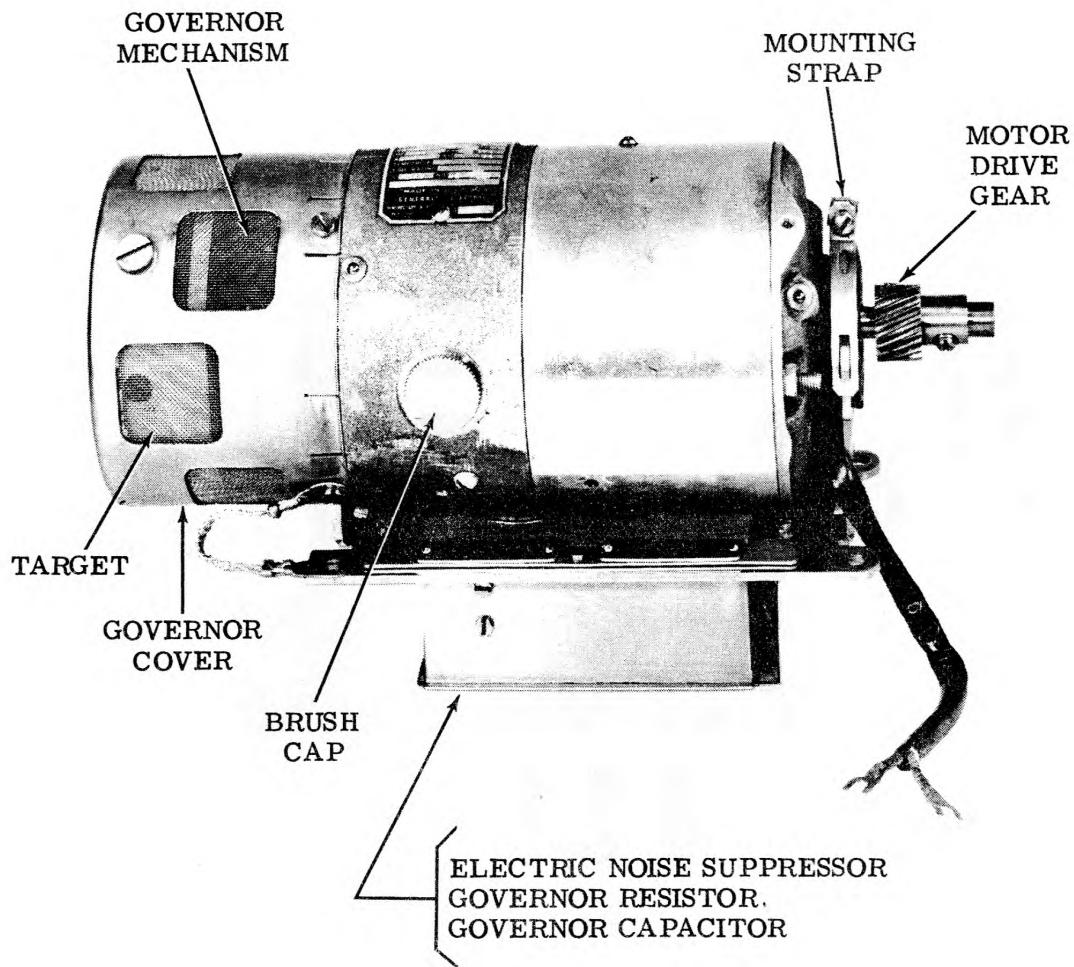

Figure 3 - Typical Series (Governed) Motor Unit
1.04 The series (governed) type motor units (Figure 3) are available in standard and heavy duty horsepower ratings and may be operated from regulated or unregulated, standard, single-phase power sources, or dc (direct current). The series (governed) type motor unit is also available for operation with 48 volts dc only. Specifications are given in Table III.
SERIES (GOVERNED) MOTOR UNITS (Fig. 3)
SERIES (GOVERNED) MOTOR UNITS (Figs. 3 and 5)